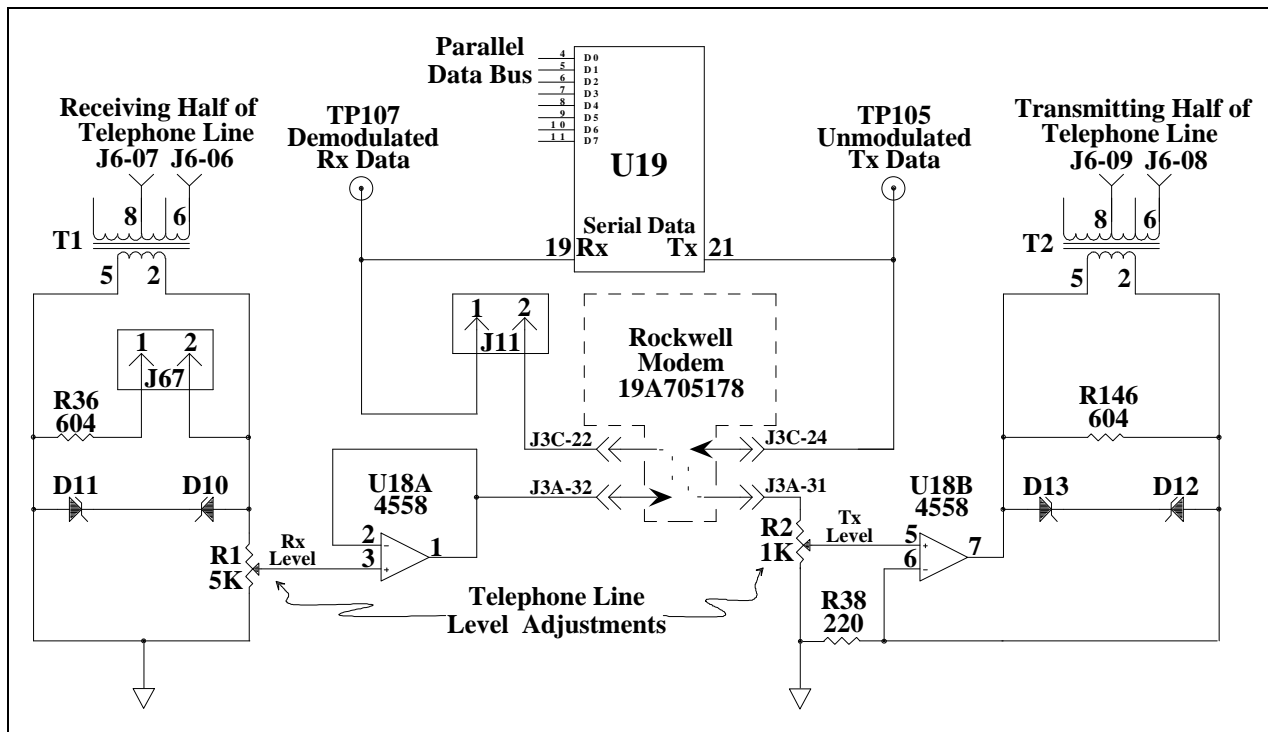

Figure 5 - GETC Phone Line Level Adjustments
3. Adjust the receive level by monitoring U18 pin 1 (refer to Figures 5 and 6) and adjusting the receive level potentiometer R1 (located on the GETC Logic Board) for 400 mVpp as measured with an oscilloscope (85 mVrms if using an RMS Voltmeter).